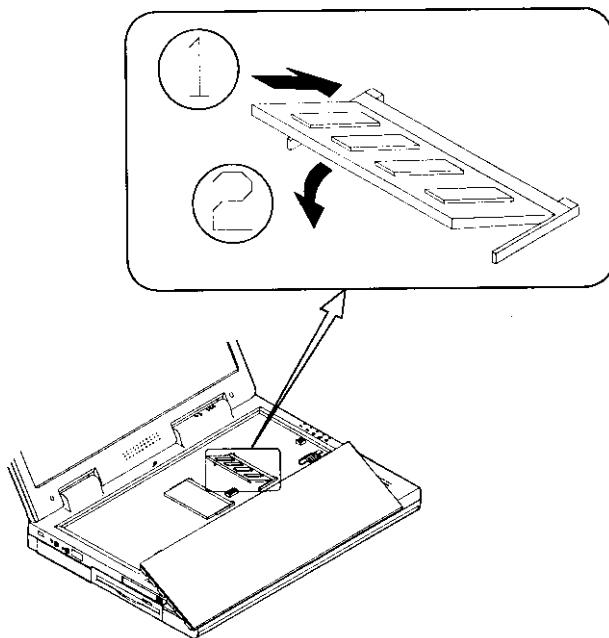

Figure 2-8
4. Insert the memory module at a slight angle (45°) and fit its connectors into the socket firmly (Figure 2-8).